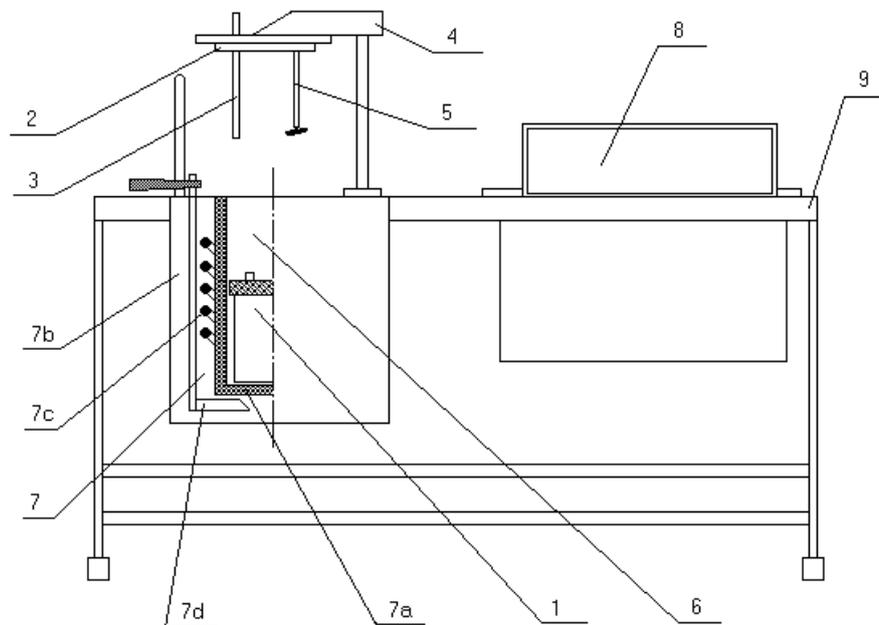

Fig. 1
The main element of the calorimeter, allowing safe combustion of fuels, is a specialized acid-proof steel vessel, known as **the calorimetric bomb** (fig.1 pos.1). The bomb is enclosed with a circular, self-sealing cap which does not require a wrench.
The calorimetric vessel (fig.1 pos.6) is placed within **the calorimeter's mantle - a water thermostat** (fig.1 pos.7) on an insulated base. The thermostat's purpose is to isolate the measurement from the surrounding's external heat influences. Within its space, there's a **pipe coil** (fig.1 pos.7c), used to regulate the water's temperature by introducing a heating or a cooling medium (preferably - also water). Next to the pipe coil, there's a **manual stirrer** (fig.1 pos.7d), used to equalize the mantle's water temperature. During measurement, thermostat must be enclosed with a **cover** (fig.1 pos.2).
Manual stirrer with a rotor (rys.1 poz.5) is powered by an electric engine and is used to stir water in the calorimetric vessel. The engine's rotation speed is set by the manufacturer. Measurement of temperature increment is carried out with a specialized, precise sensor (fig.1 pos.3), embedded in the calorimetric vessel.